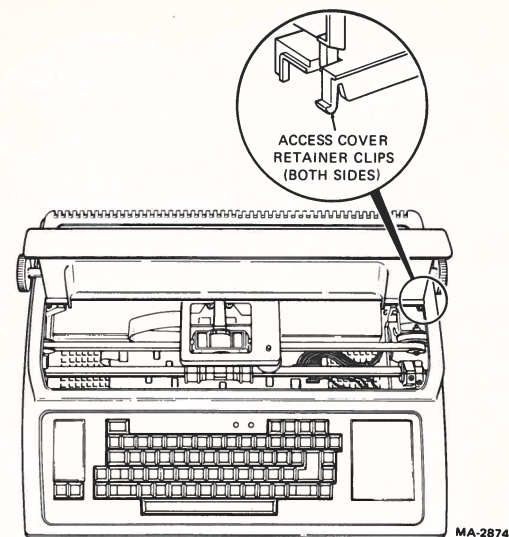

Figure 2-2 Access Cover Removal
4. Lift the access cover and depress the two access cover retainer clips. Lift the access cover straight up (Figure 2-2).